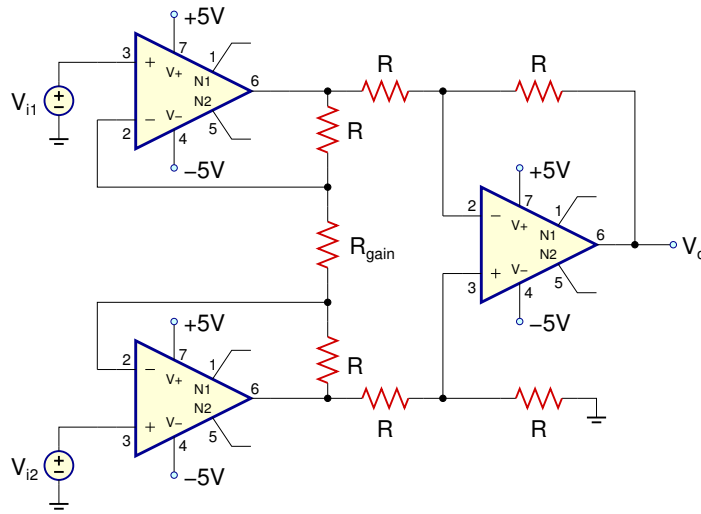

Figure 3: Typical instrumentation amplifier circuit
The instrumentation amplifier is a differential amplifier that has high input impedance and the capability of gain adjustment through the variation of a single resistor. A typical instrumentation amplifier is shown in Fig. 3.
3. For the instrumentation amplifier in Fig. 3, find R to have $V_o = 3(V_{i2} - V_{i1})$, if $R_{gain} = 1k\Omega$.
1. Build the circuit in Fig. 3 with the simulated component values.
5. For the instrumentation amplifier in Fig. 3: